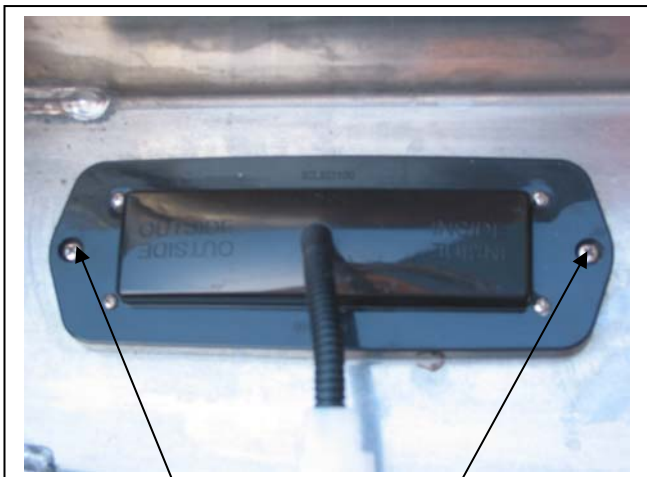

Figure 7
9. Fit ECB LED indicator / park lights (supplied) into protection bar as per instructions supplied with the LED indicator kit. **NOTE: Ensure park light is to outside. See figure 7.**